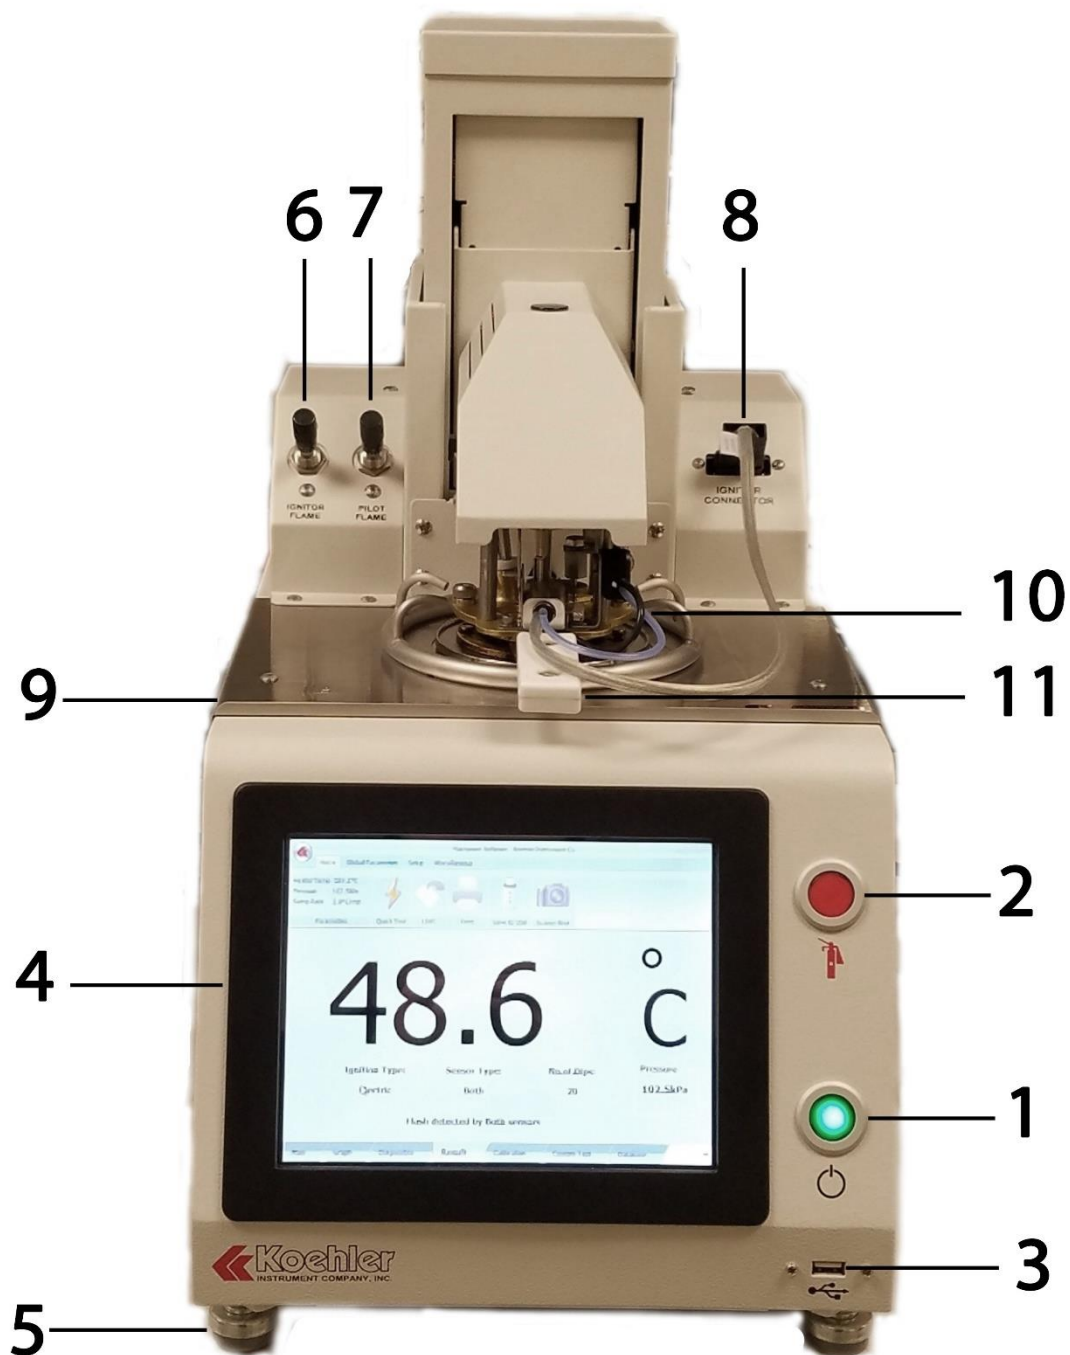

Figure 2. Instrument Descriptions (Front)
- 1. Power Button:** This button allows the user to turn the instrument on and off from the front side. The main power switch at the back of the unit (**Figure 2, Item 12**) must be switched ON prior to pressing on the power button.